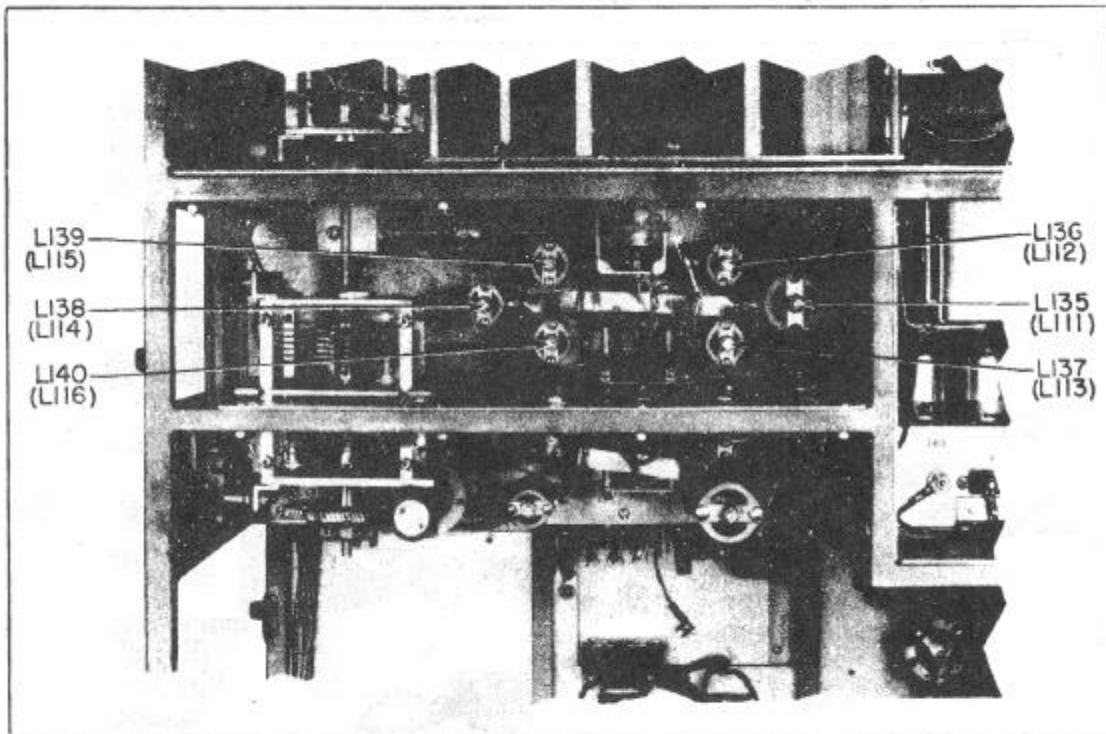

Figure 7-14—I.P.A. Adjustments
(12) The same coil used on "BAND 3" is used on "BAND 5"; likewise, the coil on "BAND 4" is the same as on "BAND 6." Thus, if "BANDS 5" and "6" are properly aligned, "BANDS 3" and "4" should be correct also. As an added check, repeat steps (7), (8), and (9) for these last two bands. If a slightly different value of inductance is required, then a compromise value should be used. It is very unlikely, however, that such a condition will occur.
(13) The work circuit is now tuned to provide adequate drive for the intermediate power amplifier throughout the entire frequency range. No other IPA frequency adjustment is required and the inductance adjustments should be restaked to prevent movement.
**d. Line-Up of the I.P.A. Plate Circuit.** (See figure 7-14.)—This alignment is somewhat similar to that of the work circuit except that there are six instead of four coils for the six bands.
(1) As before, set the "FREQUENCY" control "A" to the low-frequency end of each band and adjust the "I.P.A. TRIMMER" control to minimum i-p-a plate current.
(2) Set the "FREQUENCY" control "A" to the high-frequency end of each band and note which way the "I.P.A. TRIMMER" control must be tuned to again obtain minimum i-p-a plate current. If the trimmer